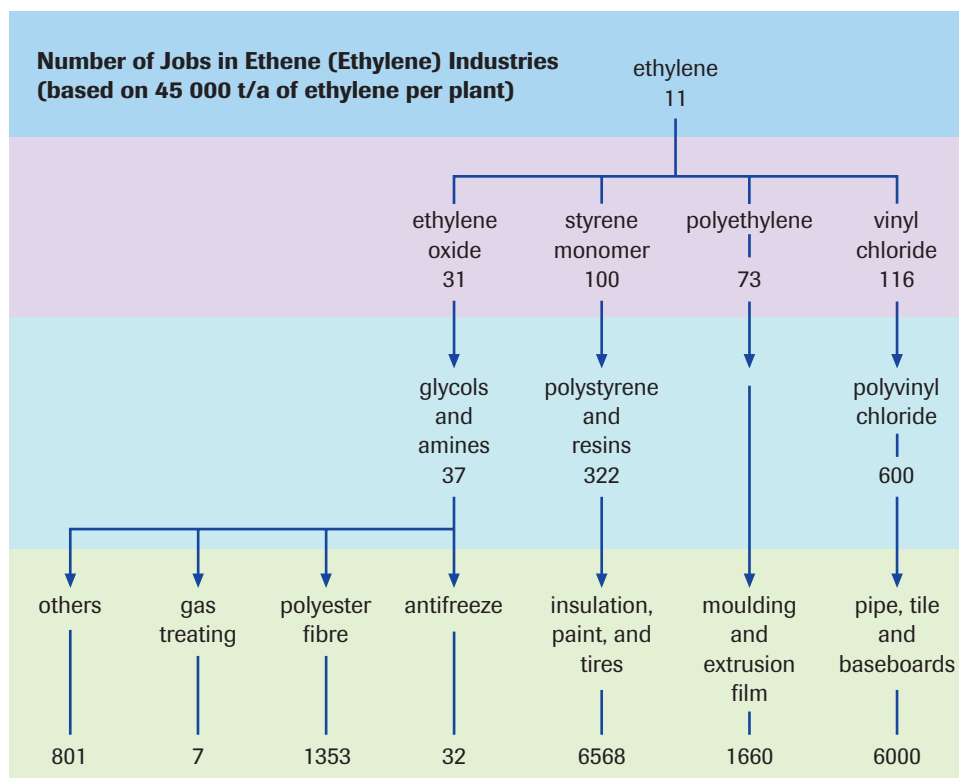

Figure 3
About 5% of our fossil fuels is used to produce petrochemicals. The economic importance of petrochemicals lies in the fact that basic raw materials are processed and reprocessed many times. For example, **Figure 3** shows the numbers of jobs in various industries that rely on petrochemicals. Ethene (ethylene) is one of the most important petrochemicals. For every 11 jobs involved in the manufacture of ethylene, 116 jobs are created in manufacturing the intermediate, vinyl chloride (chloroethene), 600 jobs in manufacturing the plastic polyvinyl chloride (PVC), and about 6000 jobs in manufacturing other commercial and consumer products, such as pipes and tiles.
2. **Figure 3**, on the previous page, illustrates the job multiplier effect that results from creating ethene from ethane.
Chemists divide organic compounds into two main classes: hydrocarbons and hydrocarbon derivatives. As you learned in Chapter 9, hydrocarbons contain only carbon and hydrogen atoms. **Hydrocarbon derivatives** are molecular compounds of carbon, usually hydrogen, and at least one other element. (See the diagram of organic compound families in Chapter 9, **Figure 3** on page 382.) For ease of classification, such compounds are named as if they had been produced by the modification of a hydrocarbon molecule. The hydrocarbon-derivative families studied in this chapter are organic halides, alcohols, carboxylic acids, esters, and polymers.